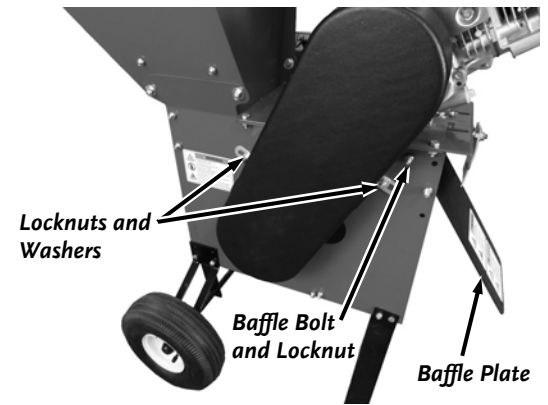

Figure 25
1. Using two 1/2" Wrenches, Remove the locknut and Baffle Bolt to remove the Baffle Plate (**Figure 25**).